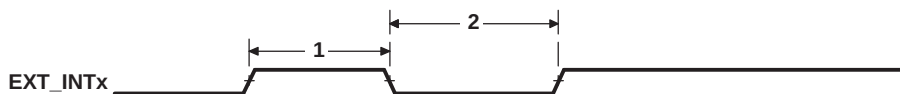

**Figure 6-20. GPIO External Interrupt Timing**
**Table 6-28. Timing Requirements for External Interrupts(1) (see Figure 6-20)**